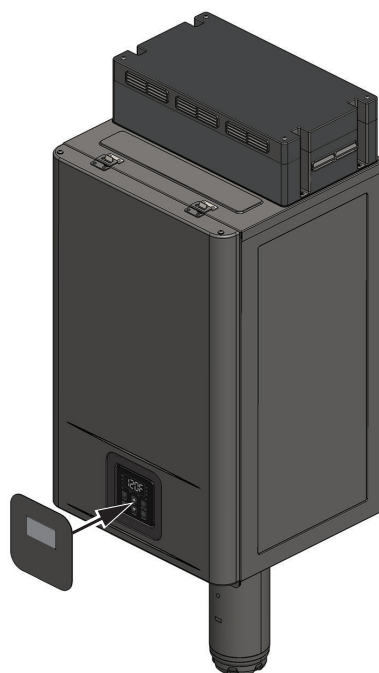

Figure 3 - Control Panel Cover Plate Install.
- 6 Attach the control panel cover plate as shown in Figure 3.